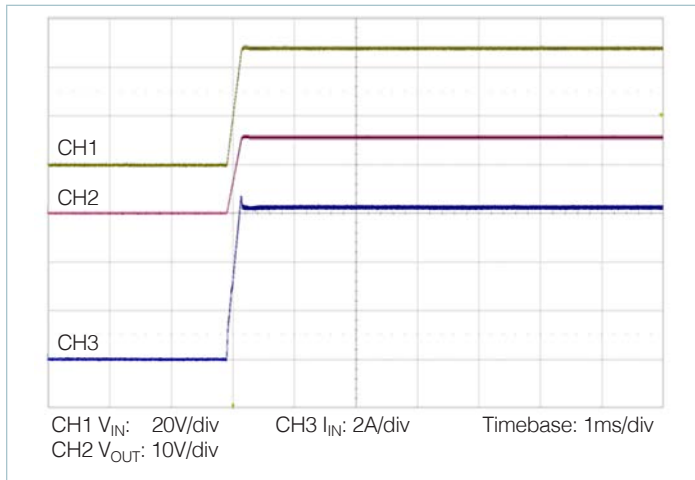

Figure 13 — Start up from application of V_{IN} ; VC pre-applied $C_{OUT} = 800\mu\text{F}$
- **Normal operation (VC applied prior to V_{IN}):** In this case the controller is active prior to ramping the input. When the input voltage is applied, the VTM module output voltage will track the input (See Figure 13). The inrush current is determined by the input voltage rate of rise and output capacitance. If the VC voltage is removed prior to the input reaching 26V, the VTM may shut down.